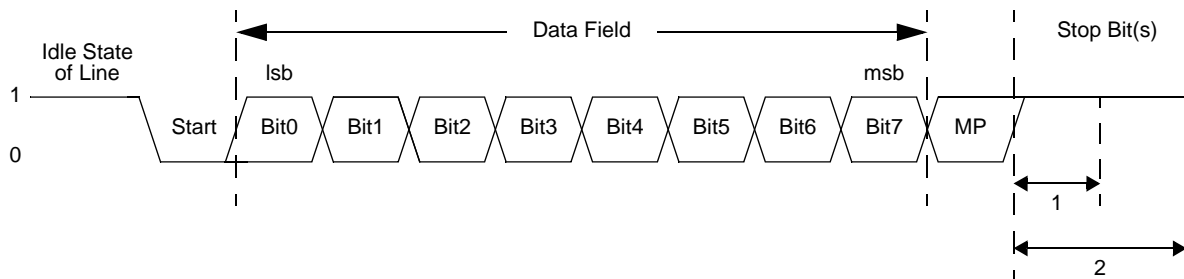

Figure 16. UART Asynchronous MULTIPROCESSOR Mode Data Format
The UART has a MULTIPROCESSOR (9-bit) mode that uses an extra (9th) bit for selective communication when a number of processors share a common UART bus. In MULTIPROCESSOR mode (also referred to as 9-Bit mode), the multiprocessor bit (MP) is transmitted immediately following the 8-bits of data and immediately preceding the Stop bit(s) as illustrated in Figure 16. The character format is: